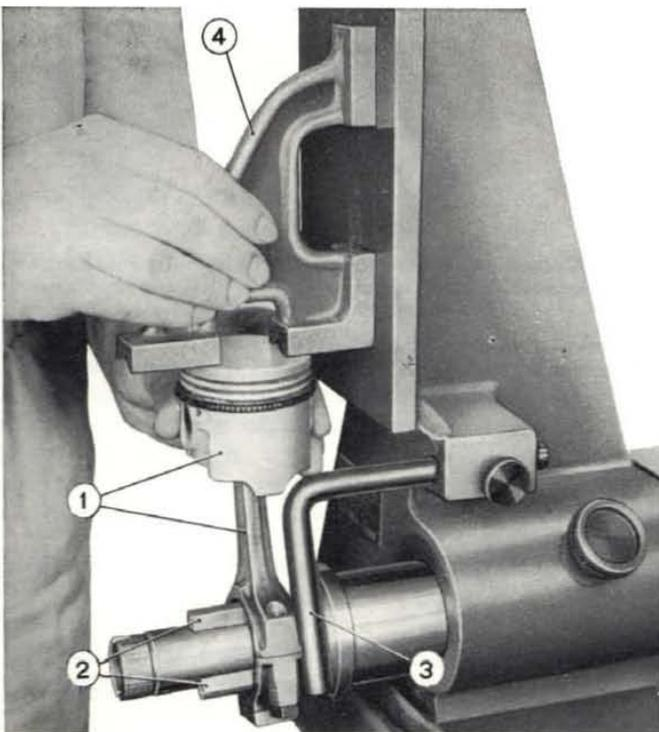

Fig. 59 - Checking connecting rod-piston and pin assembly for misalignment.
- Using fixture Ap. 5051, check the assembly for misalignment as shown in fig. 59. Minor distor-